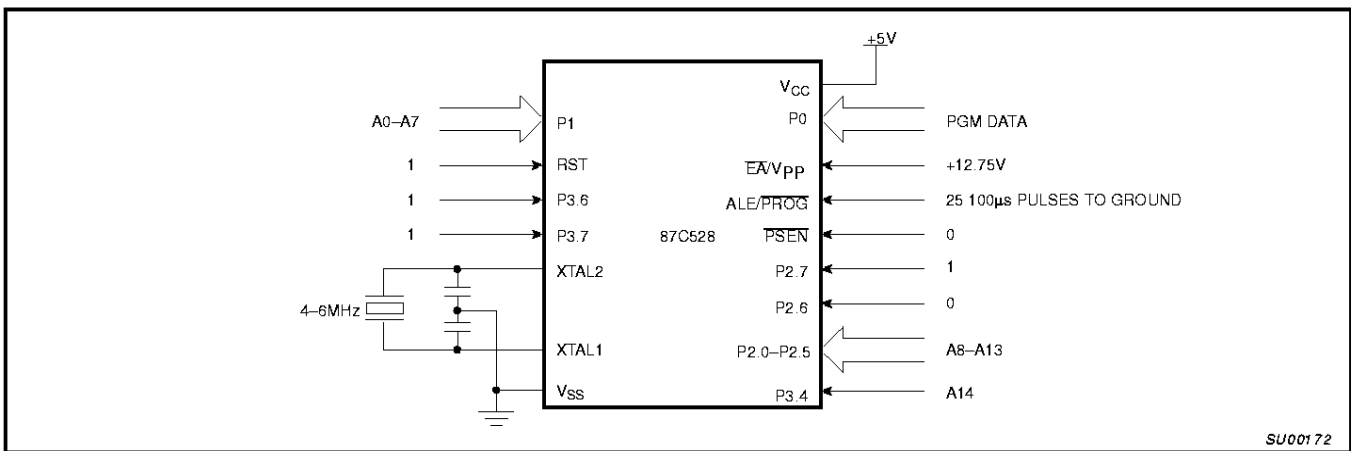
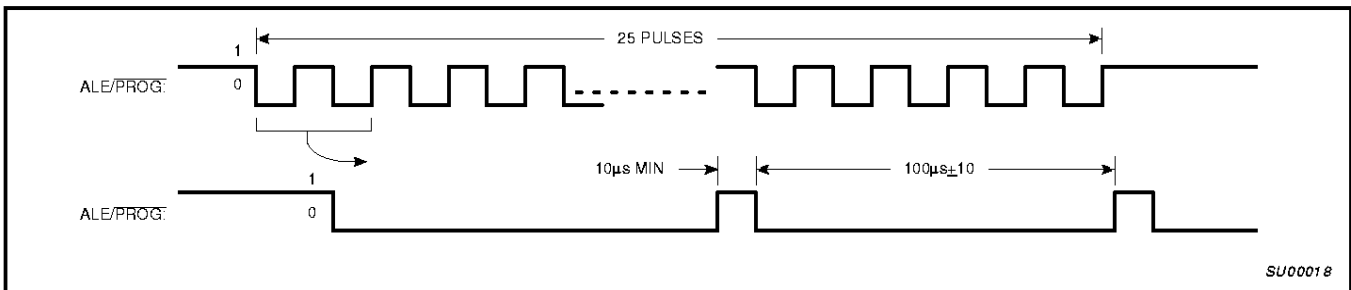
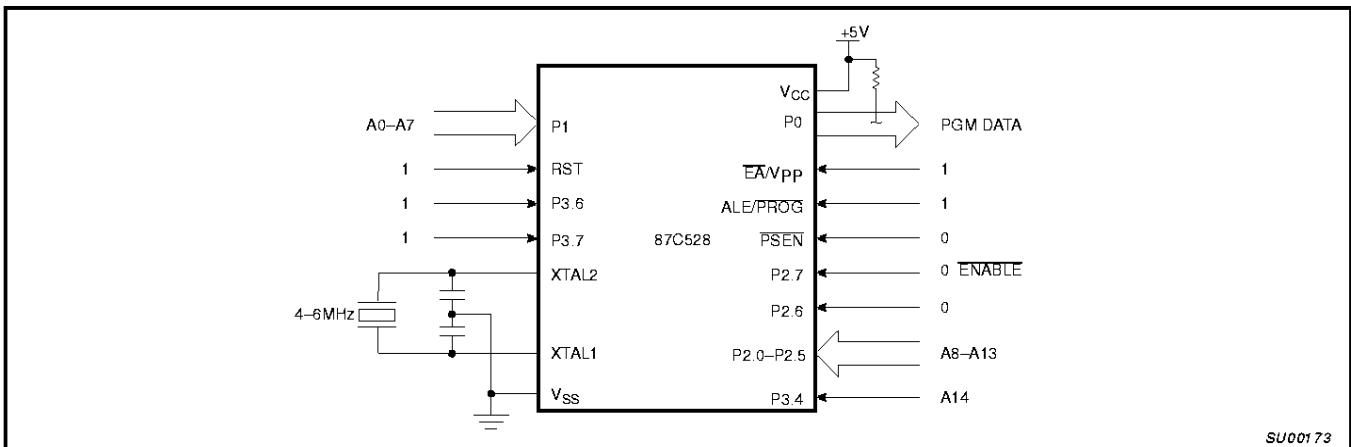

Figure 14. Programming Configuration
Figure 15. PROG Waveform
Figure 16. Program Verification
Table 6 shows the logic levels for reading the signature byte, and for programming the program memory, the encryption table, and the lock bits. The circuit configuration and waveforms for quick-pulse programming are shown in Figures 14 and 15. Figure 16 shows the circuit configuration for normal program memory verification.
The setup for microcontroller quick-pulse programming is shown in Figure 14. Note that the 87C528 is running with a 4 to 6MHz oscillator. The reason the oscillator needs to be running is that the device is executing internal address and program data transfers.
The address of the EPROM location to be programmed is applied to ports 1, 2 and 3, as shown in Figure 14. The code byte to be programmed into that location is applied to port 0. RST, PSEN and pins of ports 2 and 3 specified in Table 6 are held at the 'Program Code Data' levels indicated in Table 6. The ALE/PROG is pulsed low 25 times as shown in Figure 15.
memory locations to be read is applied to ports 1, 2 and 3 as shown in Figure 16. The other pins are held at the 'Verify Code Data' levels indicated in Table 6. The contents of the address location will be emitted on port 0. External pull ups are required on port 0 for this operation.
* FOR PROGRAMMING VERIFICATION SEE FIGURE 14.
FOR VERIFICATION CONDITIONS SEE FIGURE 16.